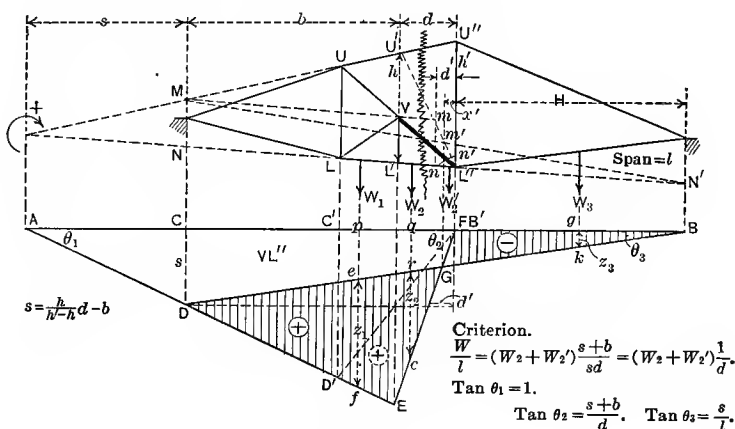

FIG. 8.
**Lower Segment of Diagonal in Sub-strut Truss.**—Let  $VL''$ , Fig. 8, be the lower segment considered. This is a portion of the diagonal  $UL''$  of the main truss and also forms a chord member of the auxiliary truss  $LVL''$ .
The criterion for the position of wheel loads producing maximum moment is found in the manner previously explained. Referring to equation (13) and Fig. 8.